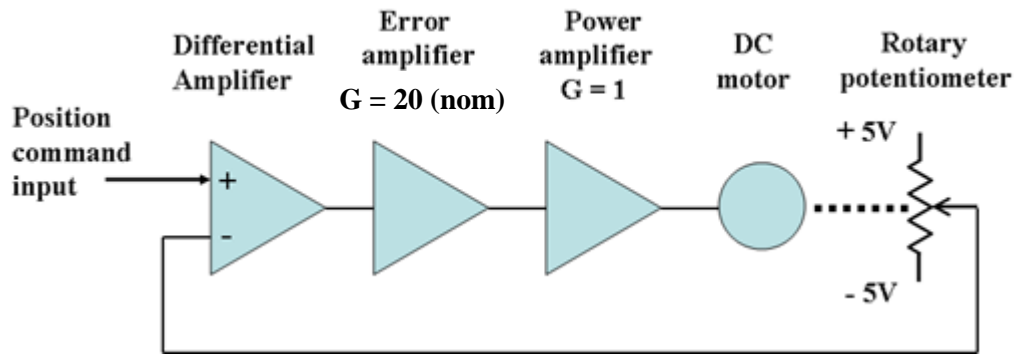

Figure 1: Closed-loop DC motor control using a servo potentiometer.
- b) Connect the closed loop DC motor control circuit shown in figure 1 on the *Digiac* system using the servo pot as the feedback element.